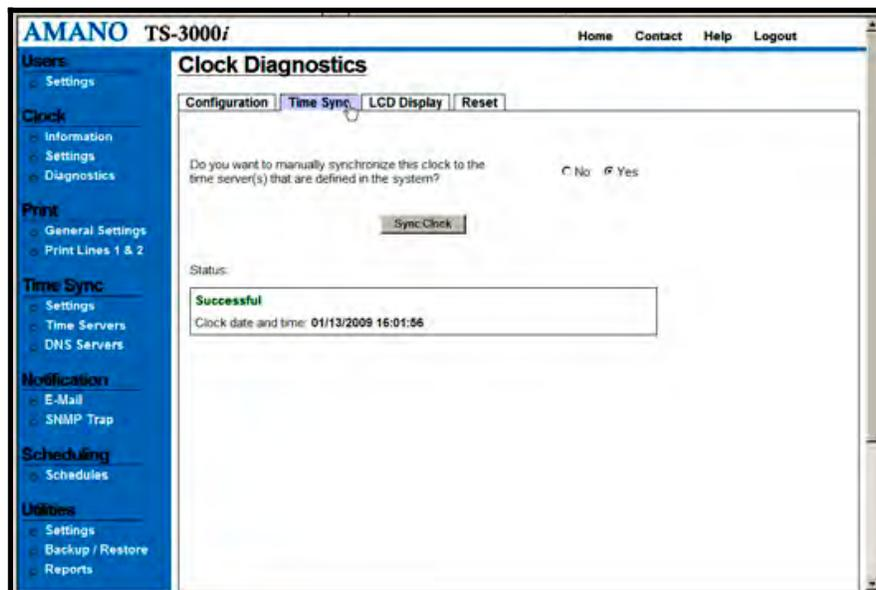

Figure 7-2: Manual Time Sync Clock
- Step 1.** Click on the **Diagnostics** link under **Clock**, and the **Clock Diagnostics** screen will appear. Then click on the **Time Sync** tab and the Time Sync screen will appear (see Figure 7-2).